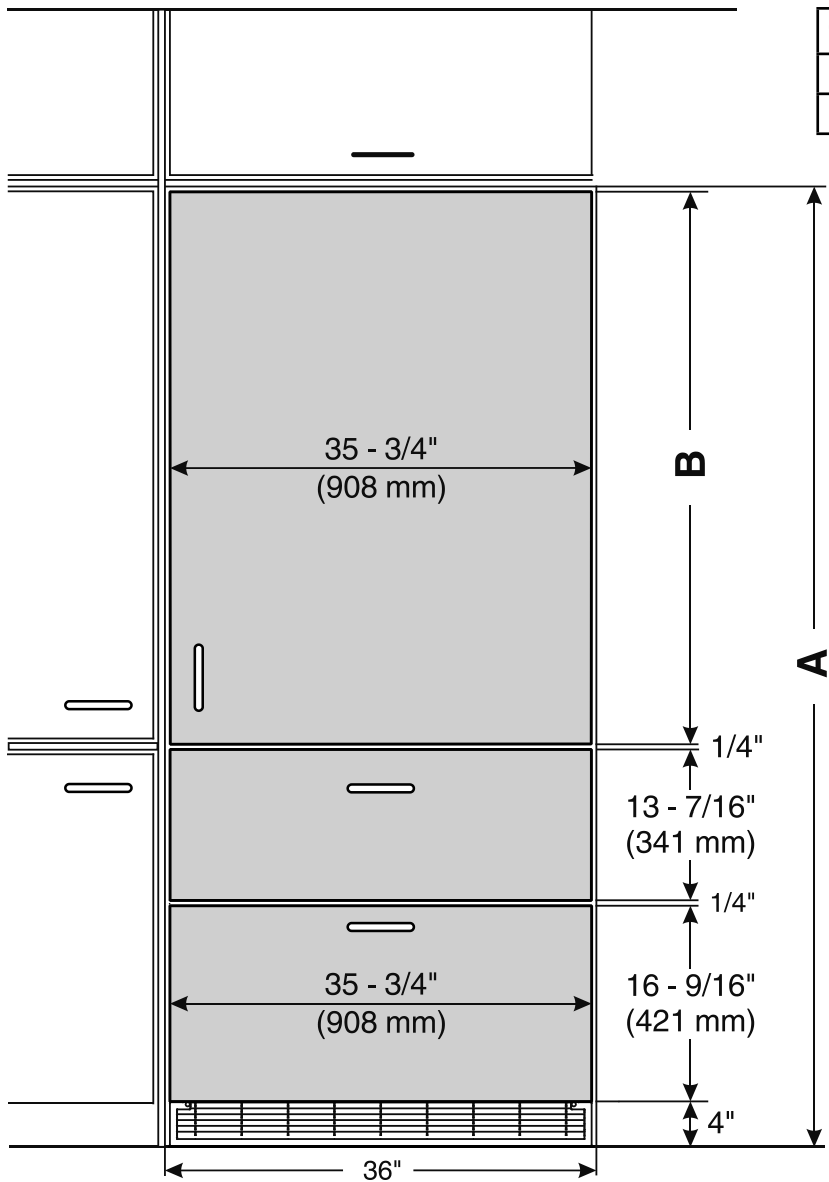

Figure 5
Panel Dimensions - Inset Installation Style - Figure 5
2. Drill a 3/8" diameter hole in any position as shown in Figure 5 using a carbide drill bit.